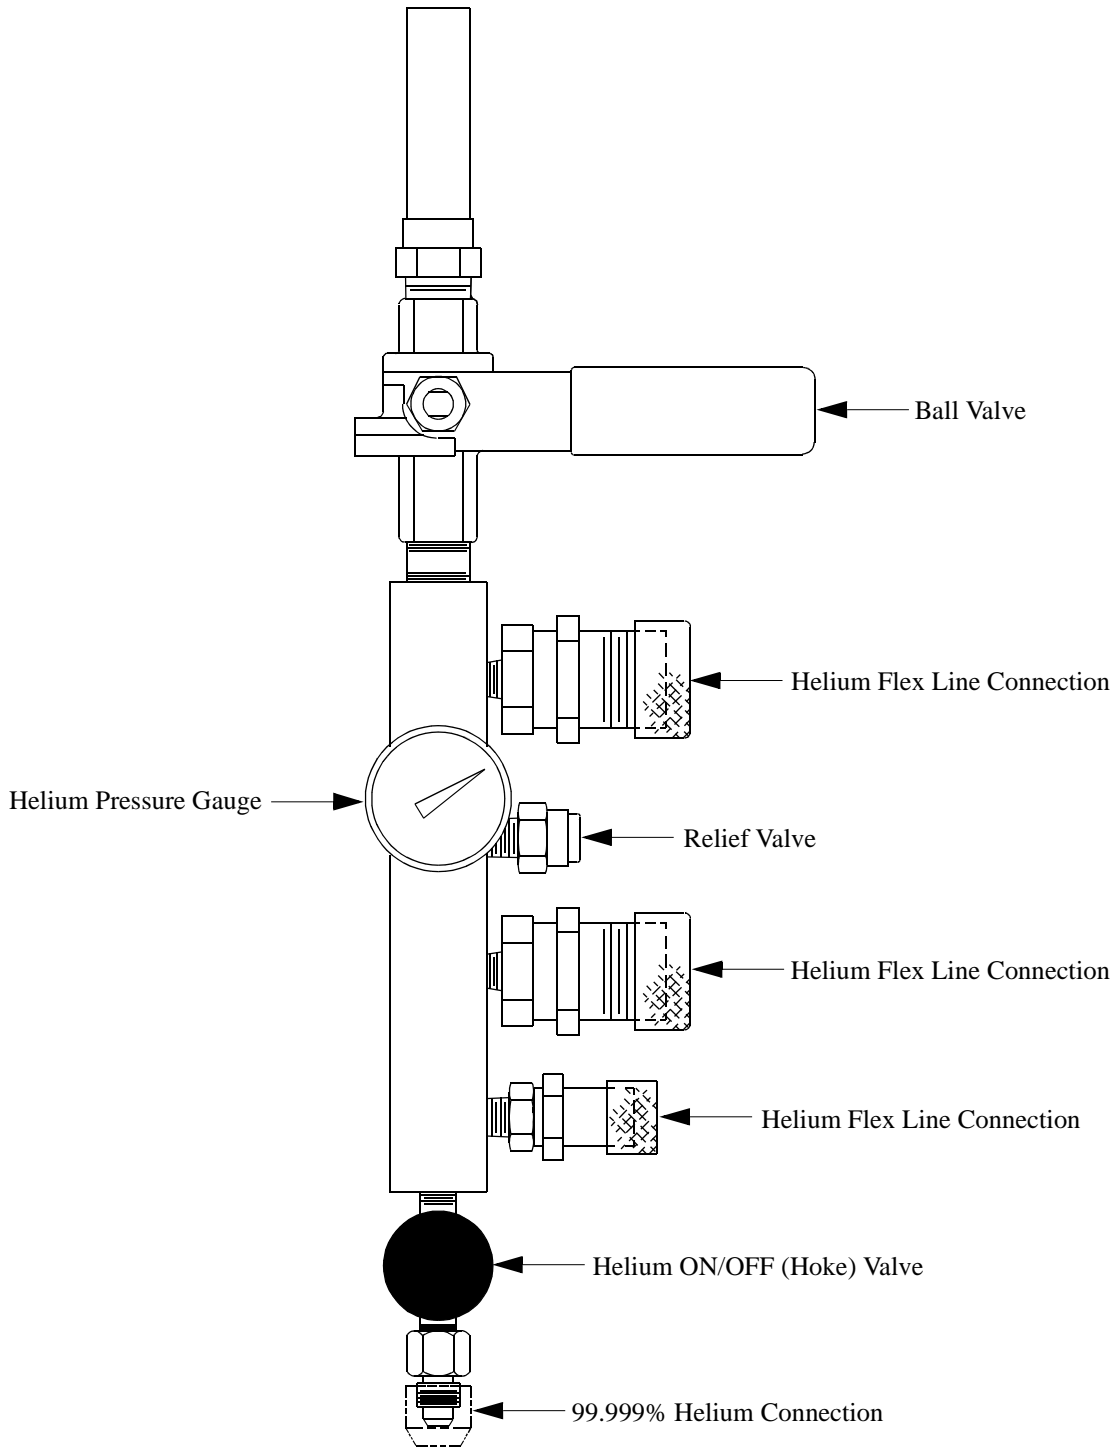

Figure 3: Maintenance Manifold Part Number 8032051G001
- c. Loosely connect the charge line to the closed Hoke valve on the maintenance manifold. Refer to Figure 3.